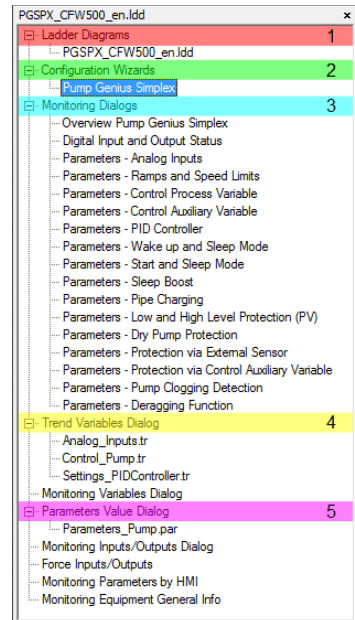

Figure 6.1 – Project Tree
Using WLP programming software can implement or change ladder application of Pump Genius Simplex or Multipump application, configure the parameters through the Configuration Wizards (2), monitor parameters and variables through the Monitoring Dialogs (3), monitor variables through Trend Variables Dialogs (4), and upload/download drive parameters CFW500 through the parameter Values Dialogues (5). The figure 6.1 presents the project tree where the functions mentioned before.